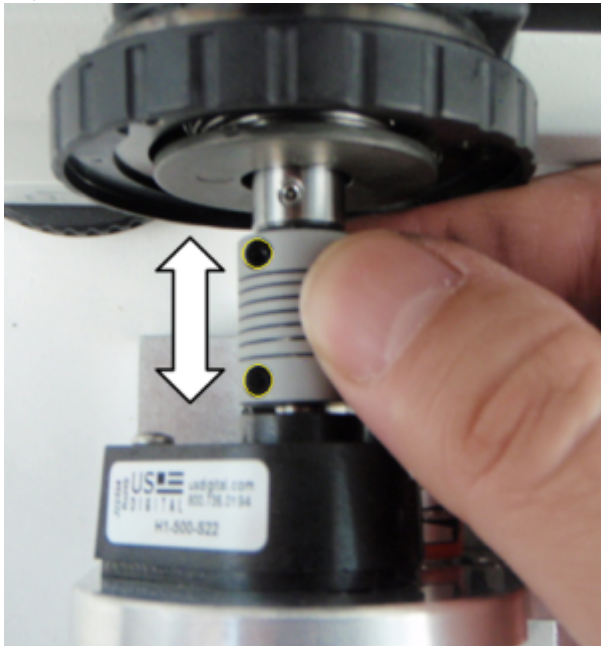

Figure 4e
- d) Once the drive unit is aligned, and alignment screws tightened; verify proper alignment by loosening the two set screws on the flex coupler with a 2mm Hex wrench. If properly aligned the flex coupler should easily slide back and forth without having to bend (figure 4e). If the alignment is not correct, loosen the alignment screws and do steps a-d till a proper alignment is achieved.